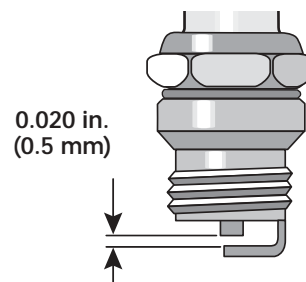

Figure 30
3. Replace cracked, fouled or dirty spark plug. Set the air gap at **0.020 in. (0.5 mm)** using a feeler gauge. See Figure 30.